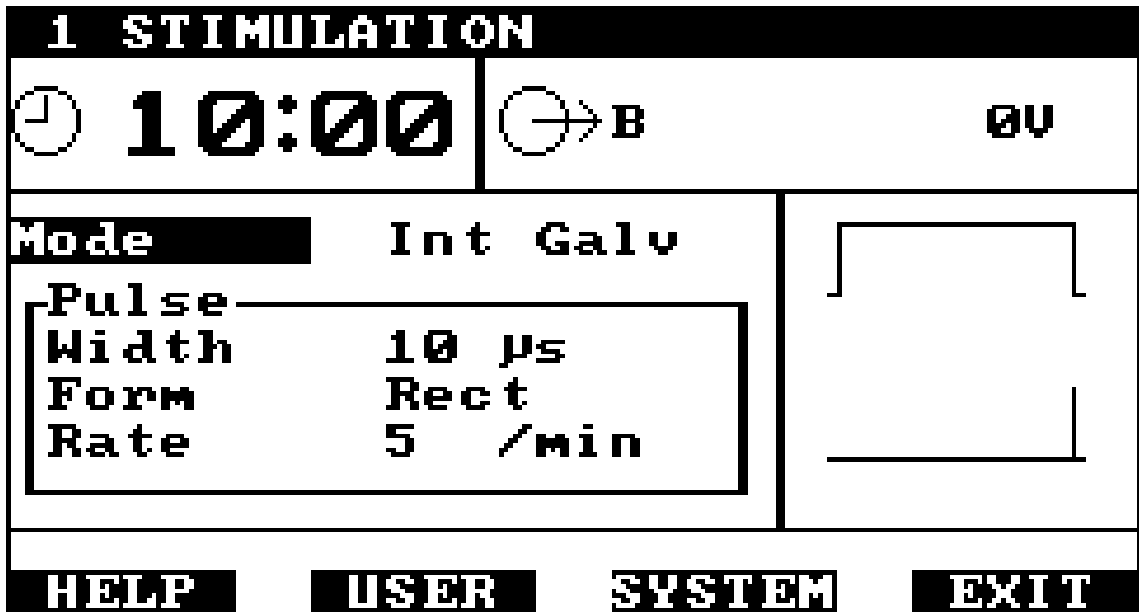
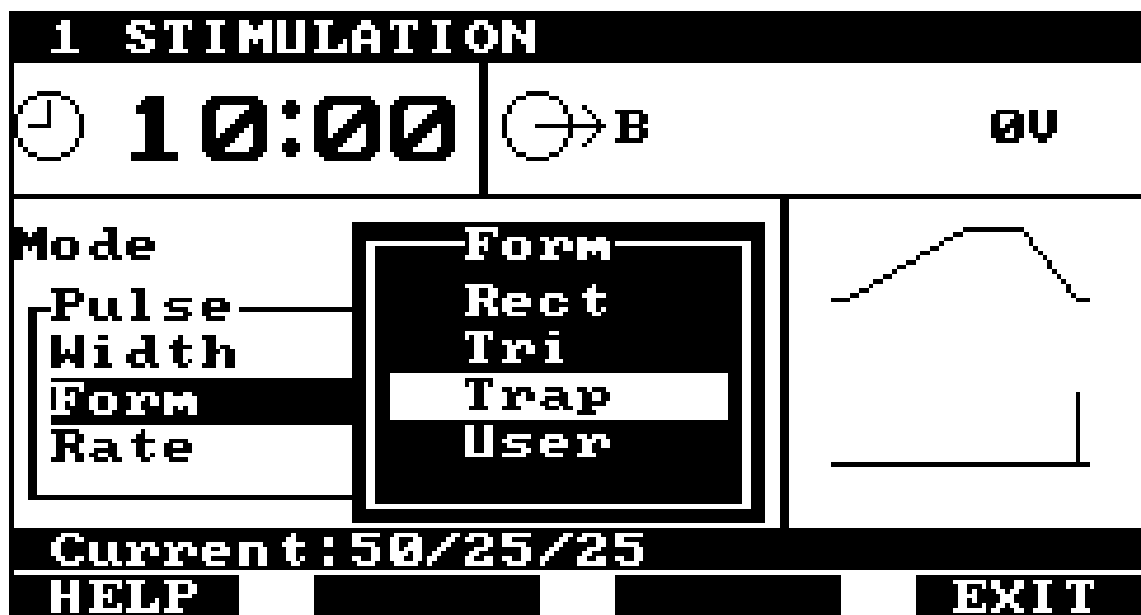

Figure 19 - Interrupted Galvanic set-up screen
Figure 21 - Setting the pulse form
16. In interrupted galvanic mode, the remaining options determine the width, shape and repetition rate of the pulses. The graphic display on the right hand side of the display shows the pulse shape at the top and at the bottom, a graph showing how the output amplitude varies with time during one cycle of the pulse (figure 19).
Alternatively, if the ENTER key is pressed when the label Form is highlighted, a sub-window will appear (figure 21). The available options will be displayed in the sub-window with the current setting highlighted. Also the rise, hold and fall times for the current selection are shown as percentages of the total pulse width in a highlighted bar just above the function key labels. Use the up and down arrow keys to highlight the required pulse form and confirm the selection by pressing the ENTER key. If one of the standard forms has been selected, the system will return to the main interrupted galvanic mode set-up screen (figure 19) and display the new pattern.